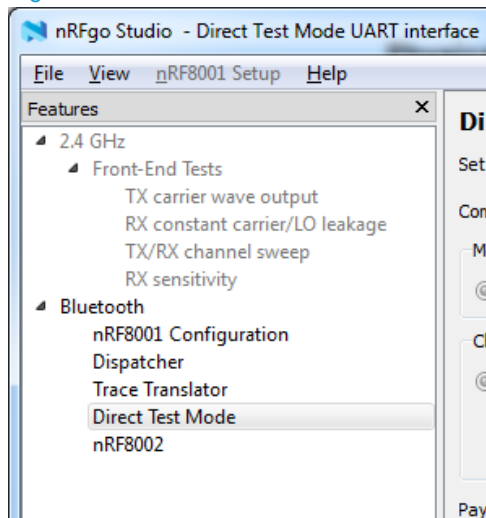

Figure 4: Opening the Direct Test Mode panel
2. In nRFgo Studio, click **Direct Test Mode** in the features panel to open the Direct Test Mode panel as shown in Figure 4.